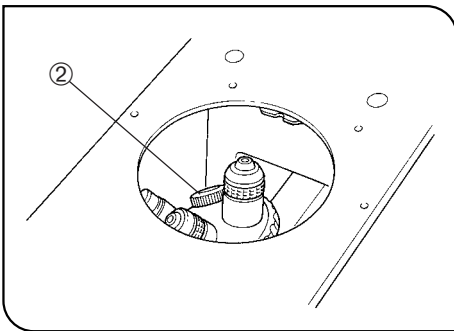

Fig. 29
★ Be sure to cover any unused threaded positions with the objective caps ② to prevent dirt and dust from getting inside. (Fig. 29)